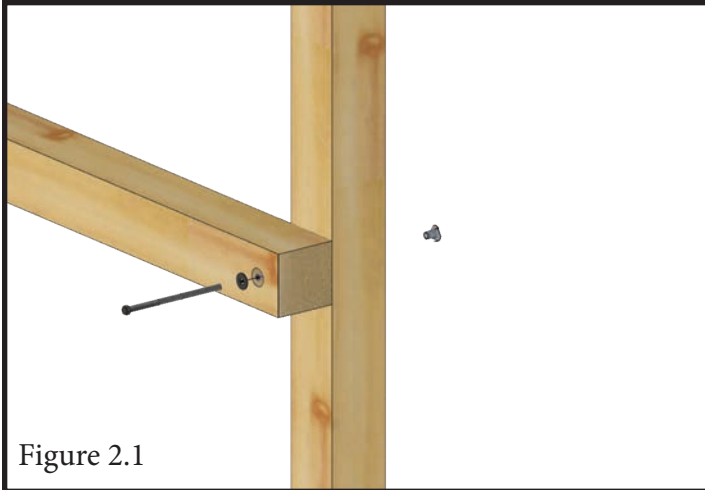

Figure 2.1
2.1 With a hammer, insert T-Nuts into the outside of Corner Post - L and Corner Post - R as shown in Figure 2.1.